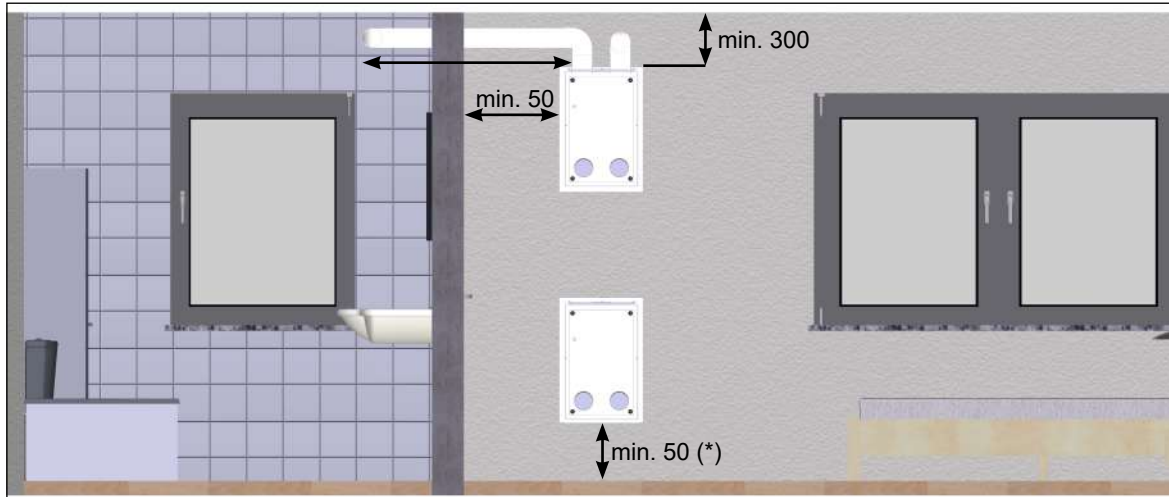
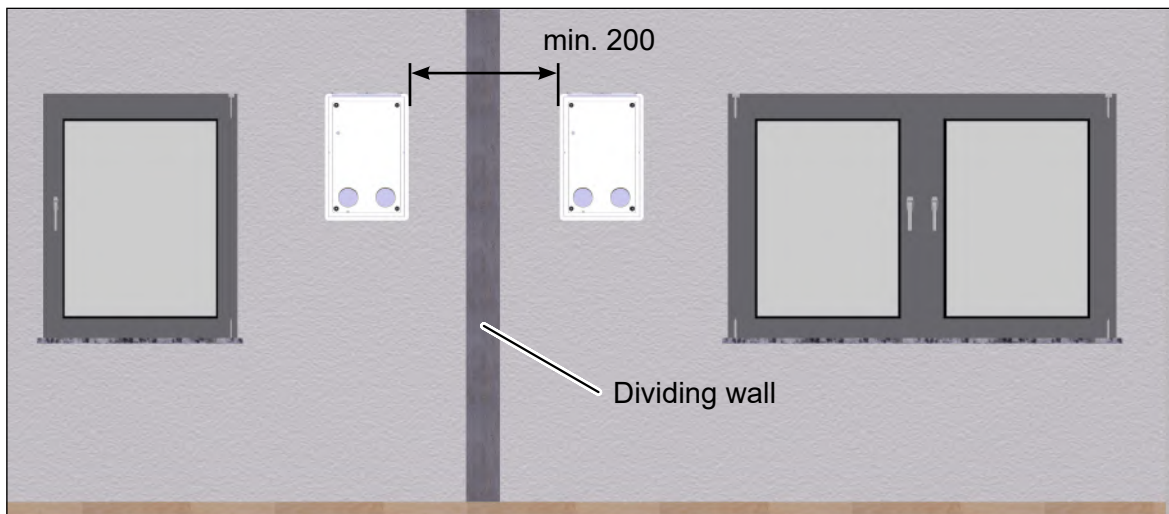

Fig. 4: Minimum distances and options for positioning the M-WRG-II M-U² installation kit, dimensions in millimetres
Fig. 5: Lateral minimum distance between two wall boxes, dimensions in millimetres
- The flush-mount installation kit (wall box) must be installed so that the openings for the flexible pipe / flat ductwork connections always point up (see Fig. 4).
- ▶ Maintain the following minimum distances (see Fig. 4 and Fig. 5):
- The distance between the side and bottom edges of the wall box and adjacent surfaces should be at least 50 mm (exception: if a condensate connection is used, see (*) in Fig. 4). The ventilation unit will be easier to operate if this minimum distance is maintained. It also allows the air filter to be replaced without obstruction.